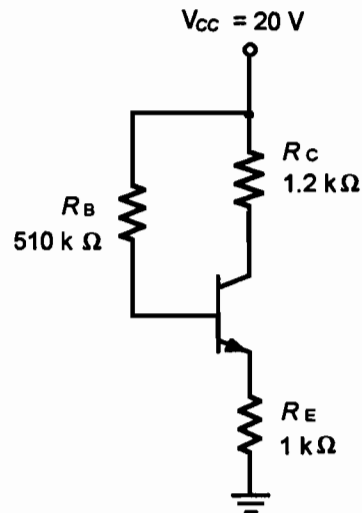

Figure 12.2
Then you will use the same three transistors in a modified circuit (Figure 12.2) to permit comparison of the individual transistor beta effect on the two circuits.
- Disconnect your circuit, and connect the circuit in Figure 12.2, using transistor A. Reapply circuit power; then measure and record the following circuit values: